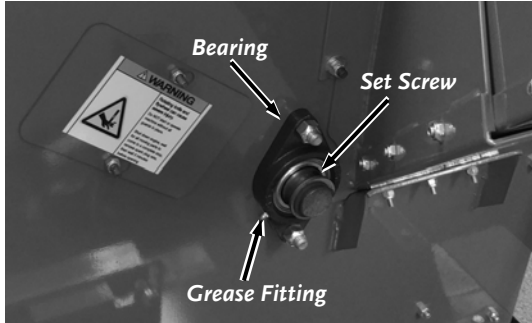
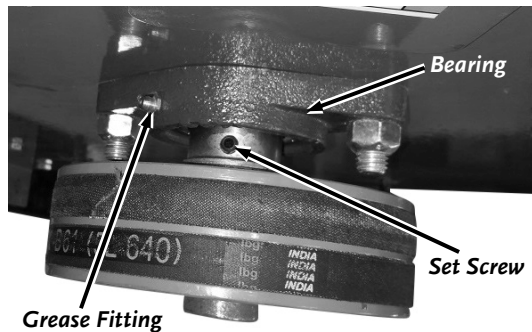

Figure 39
Figure 40
4. Wipe all debris from the grease fitting on the Hopper side (**Figure 39**) and the Belt side (**Figure 40**) with a clean cloth.